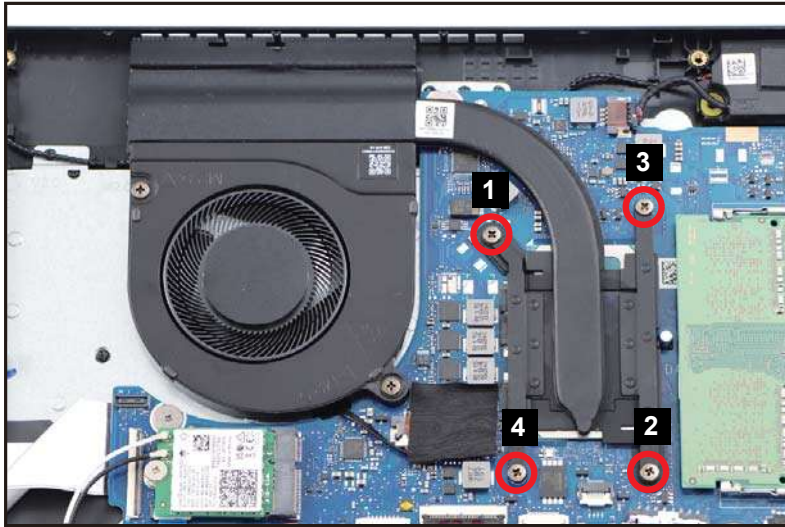

Figure 3-30. Heatsink Removal
1. Remove four (4) screws securing the CPU heatsink in place (Figure 3-30).